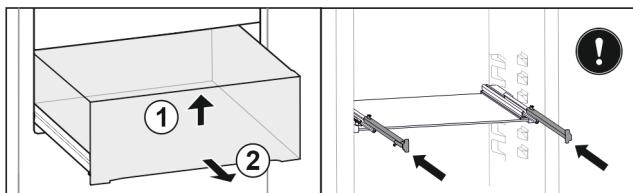

Fig. 85
- ▶ Lift up drawer at the front. Fig. 85 (1)
- ▶ Remove drawer to the front. Fig. 85 (2)